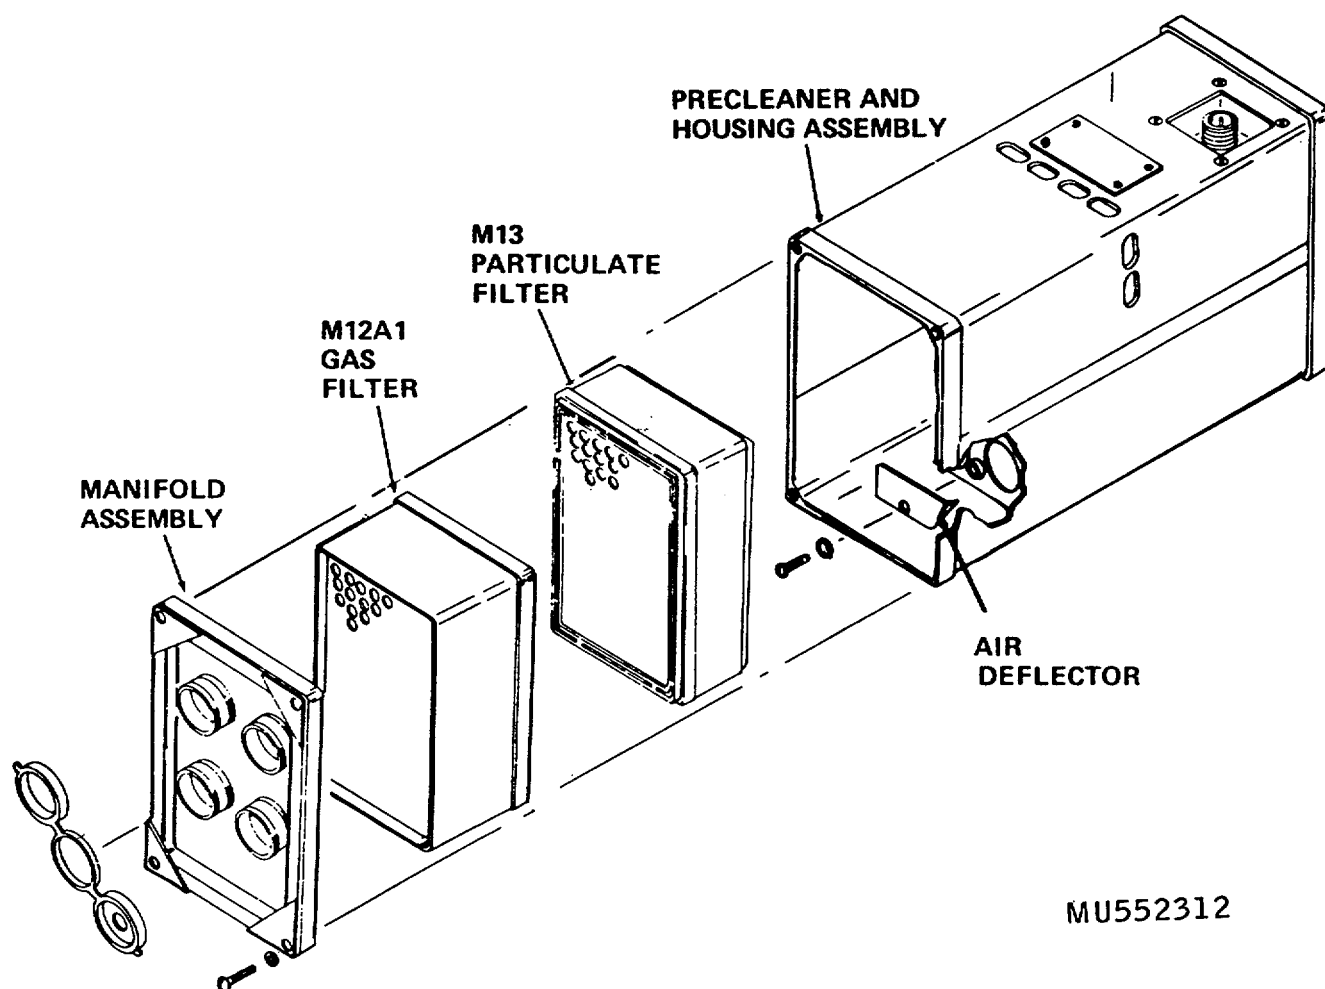

Figure 4-3. Filter replacement.
(1) Remove four screws and lockwashers that fasten the manifold assembly (fig. 4-3) to the air purifier housing. Pull the manifold assembly from the housing.
(2) Remove the gas filter and the particulate filter from the housing. If the filters are to be reinstalled, mark the particulate filter housing so that when it is reinstalled, airflow through it will be in the same direction as before removal.
(3) Decontaminate the surfaces of air purifier housing (TM 3-220). Replace the precleaner and housing assembly if required.